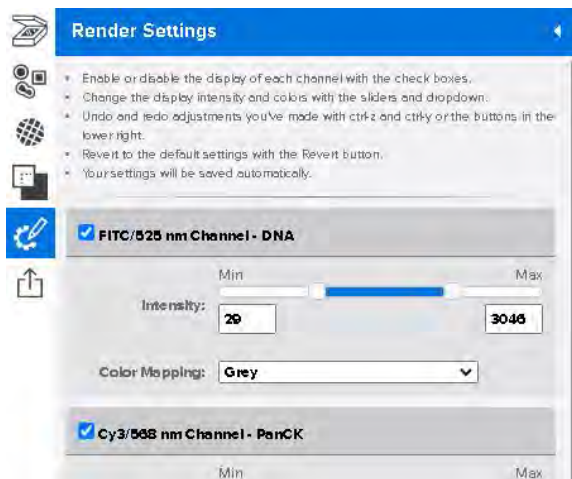

Figure 29: Scan Workspace Render Settings menu
- Open **Render Settings** (see Figure 29). Here, you may: